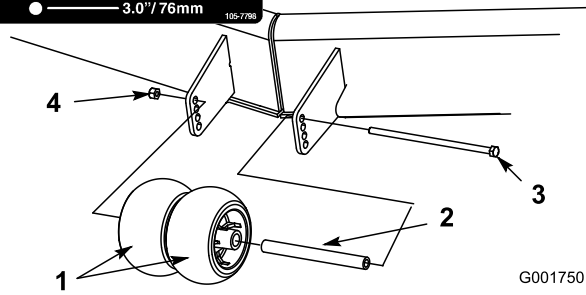

Figure 24
3. After adjusting the height-of-cut, remove the flange nut, bushing, and bolt (Figure 24).
4. Select a hole so that the center rollers are positioned to the nearest corresponding height-of-cut desired (Figure 24).
5. Install the center rollers, bushing, spacer, bolt, and nut (Figure 24).